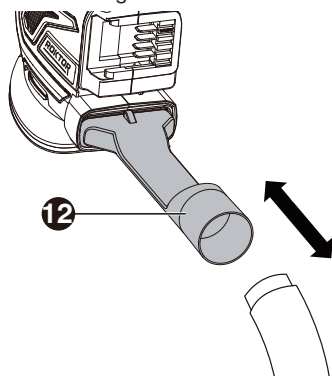

Figure 3
12. Vacuum adaptor (See Fig. 3)
3. USING DUST OUTLET (SEE FIG. 3)